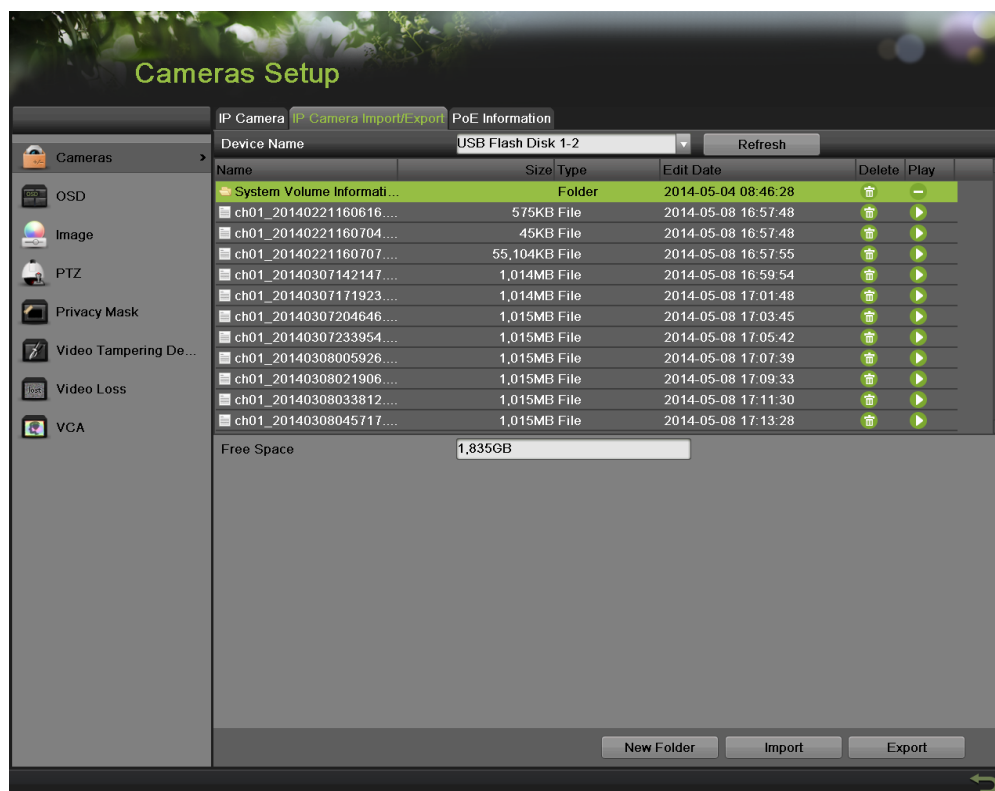

Figure 161 IP Camera Import/Export Management Menu
1. Enter the Cameras menu by going to Menu > Cameras Setup > Cameras. Select the IP Camera Import/Export tab, as shown in **Figure 161**.
1. Enter the Cameras menu, shown in **Figure 161** by going to Menu > Cameras Setup > Cameras. Select the IP Camera Import/Export tab, as shown in **Figure 161**.